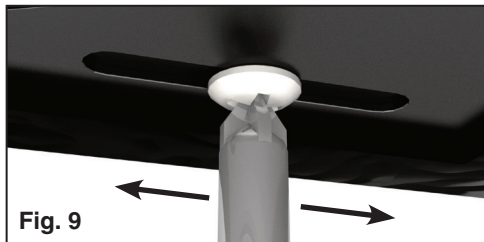

Fig. 9
2. Loosen screw and slide the plaster frame aperture in the desired direction. (Fig. 9)